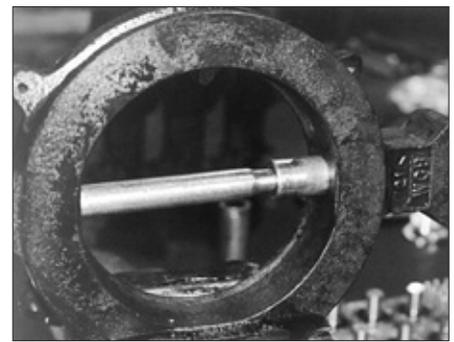

Figure 6 - Shaft bushing flush with the flow path surface.
4. Strike the tool with a hammer to continue inserting the shaft bushing until it is flush with the body flowpath surface. (see Figure 6)